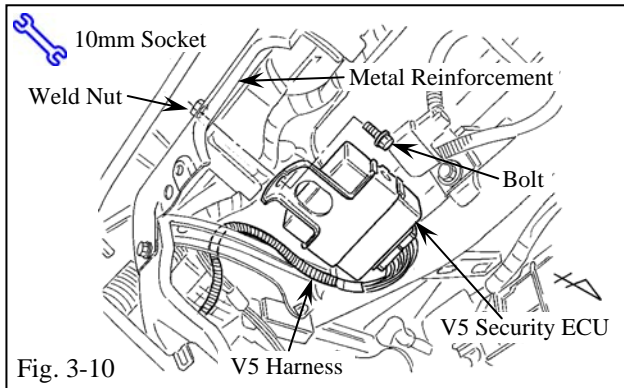
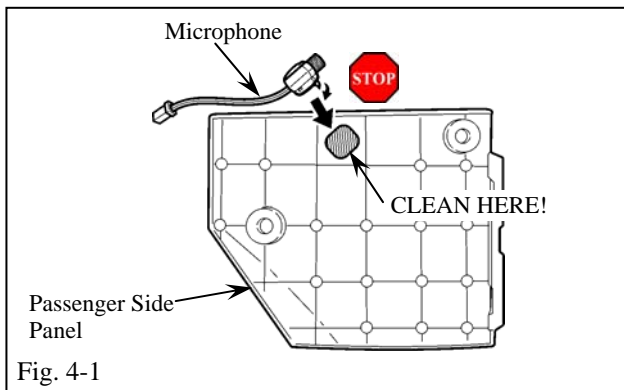
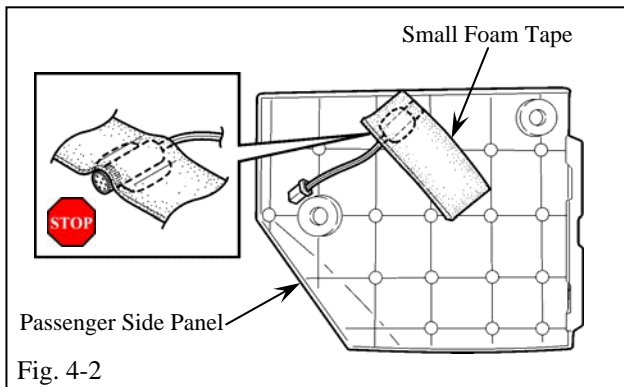
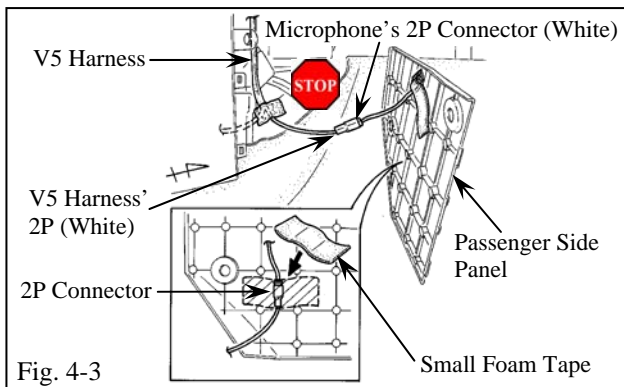

Fig. 3-10
Fig. 4-1
Fig. 4-2
Fig. 4-3
- (j) Using the supplied bolt, secure the V5 security ECU to the metal reinforcement. (Fig. 3-10)
(1) Secure the V5 security ECU as shown.
- (a) Using the 3M™ Prep Sol-70, clean the area indicated on the backside of the passenger side panel. (Fig. 4-1)
(1) When cleaning with 3M™ Prep Sol-70, follow the manufacturer's directions. Do not allow cleaner to air dry.
- (b) Remove the backing sheet and secure the microphone to the backside of the passenger side panel. (Fig. 4-1)
(1) Secure the microphone as shown.
(2) Do not touch the adhesive surface of the microphone.
(3) Press the microphone to the passenger side panel firmly.
- (c) Secure the microphone with one small strip of foam tape. (Fig. 4-2)
(1) Do not cover the opening of the microphone with the foam tape.
- (d) Plug in the V5 harness' white 2P connector to the microphone's white 2P connector. (Fig. 4-3)
(1) Verify the connectors are plugged in securely.
- (e) Secure the 2P connectors to the passenger side panel with a small foam strip of foam tape. (Fig. 4-3)